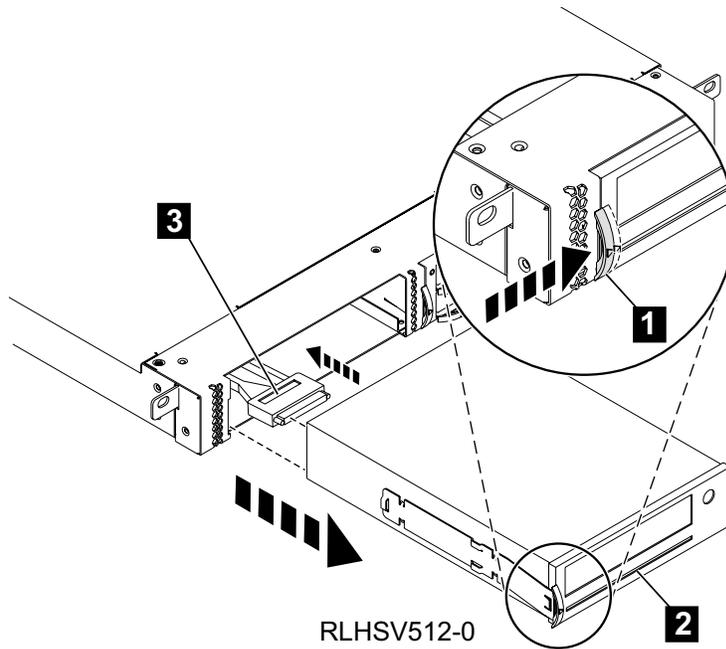

Figure 10. Removing the DAT72 Drive Assembly
1. Push the latch (see **1** in Figure 10) towards the drive assembly.